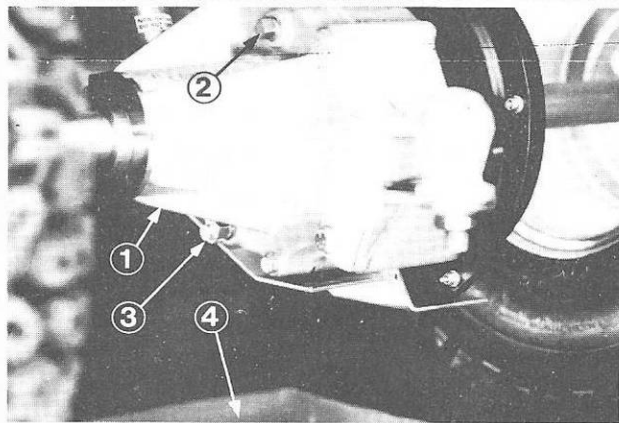

Fig. 28 ① Transmission ③ Drain Plug
2. Loosen the upper transmission filler plug (Figure 28).
2. Place an oil catch pan beneath the transmission at the axle and remove the lower drain plug (Figure 28).